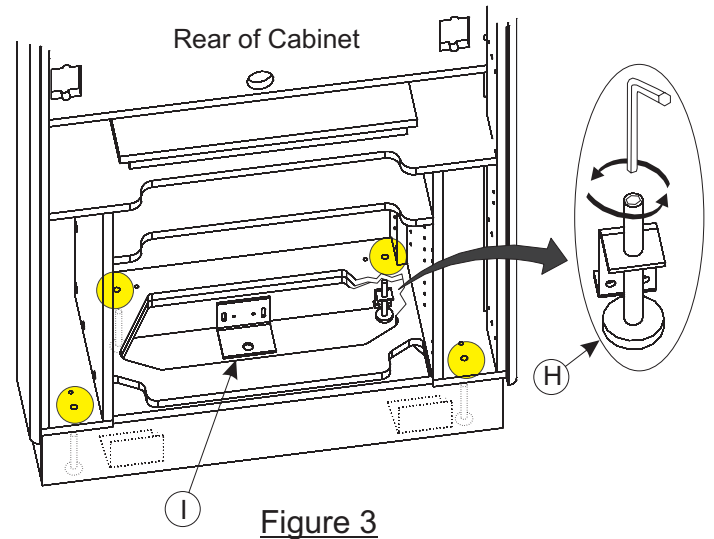

Figure 3
Adjust the (4) Leveling Feet (H) to the desired height using a 5mm allen wrench (see Figure 3). Each Leveling Foot has access to the allen head through a hole in the bottom cabinet.